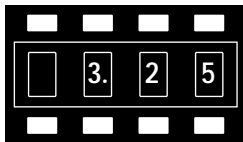

Figure 2
3. Press RUN/SETUP again to return the dispenser to SETUP mode (SETUP indicator light on). The time setting stored in the selected cell will be displayed. (Figure 2)